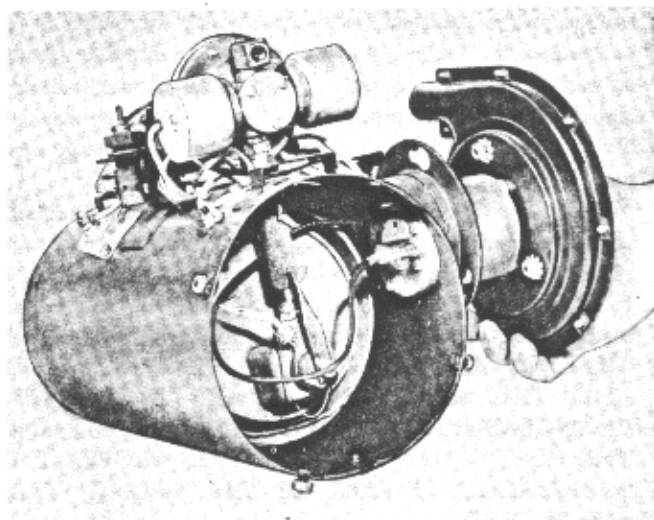

Figure 30
4. Remove blower by turning counter-clockwise and pulling directly away from heater (Figure 30).